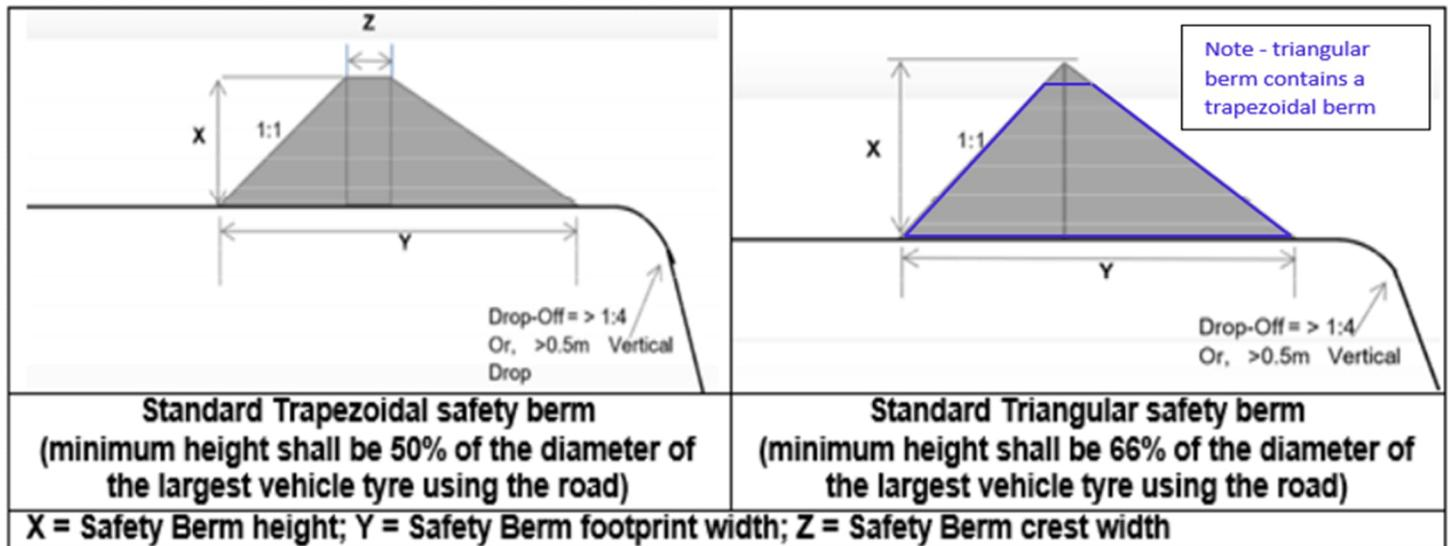

Figure 2: Design requirements for standard Trapezoidal and Triangular safety berms.
at least 0.7m or 50% of the diameter of the largest tyre being used in that area where trapezoidal berms are used and where the 'roof' dimension of the trapezoid is the greater of 1m or 75% of its height. Refer to Figure 2 below.
- For Ultra Class trucks this equates to a minimum requirement of a trapezoidal berm dimensions equal to 2m high and 6.3m wide and a maximum design specification equal to 2.7m high for triangular berms (as per the Recognised Standard 19). Refer to Figure 2 below.